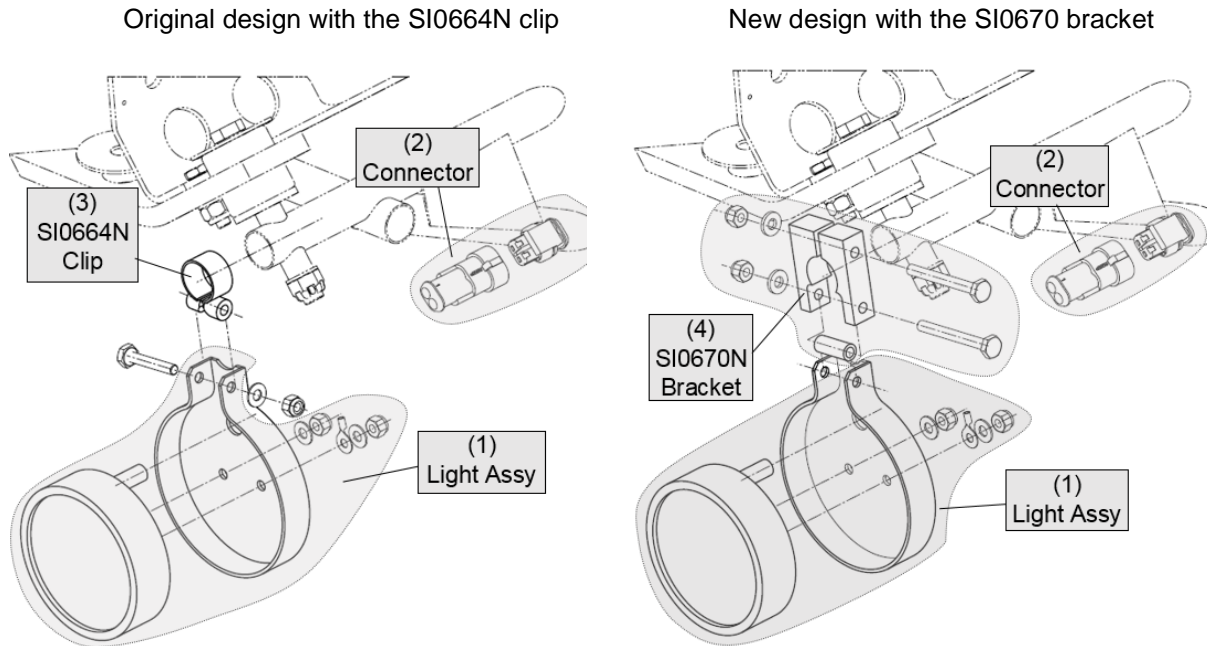

Fig.1.- Difference between original and new Kuntzleman landing light holder.
For production and technological reasons, it was decided to modify the mounting holder of the Kuntzleman 11-06854 landing light. The SI0664N clip (3) with hardware was replaced by the new SI0670N bracket (4) with hardware, see Figure 1 below.
- 1) Use the bracket (4) and attach the light assembly (1) preliminary to the engine mount, see Fig. 1 above.
- 2) Attach preliminary the engine lower cowling to the airplane and adjust mutual position of the light assembly (1) and the light cover (the light cover is a part of the engine lower cowling). Then, remove the engine lower cowling and complete mounting of the light assembly (1) and the bracket (4) to the engine mount.